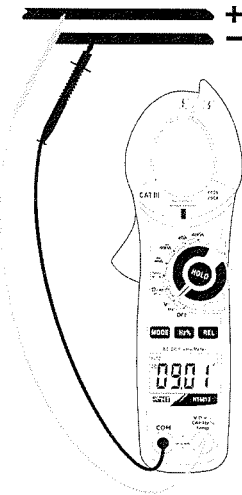

Fig. 2: Use of the clamp for DC voltage measurement
2. Insert the red cable into input terminal $V\Omega \rightarrow \rightarrow \rightarrow CAPHz\%Temp$ and the black cable into input terminal **COM** (Fig. 2).